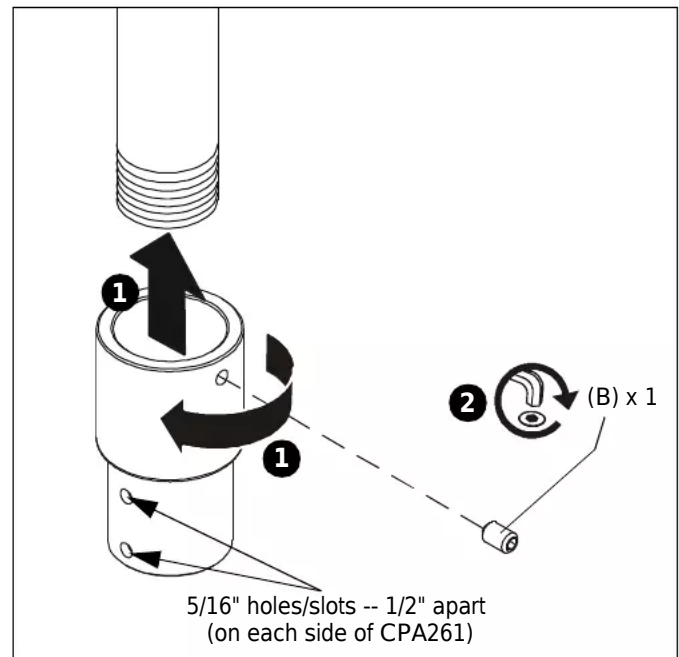

Figure 1
1. Thread CPA261 (A) onto a 1-1/2" NPT or NPSM following ANSI/ASME B1.20.1 (Schedule 40, 0.154" minimum thickness aluminum-ASTM B221) threaded extension column (not included) until tight, with a minimum of four threads engaged. (See Figure 1)
2. Install and tighten one 5/16" x 1/2" set screw (B) through CPA261 and against column. (See Figure 1)